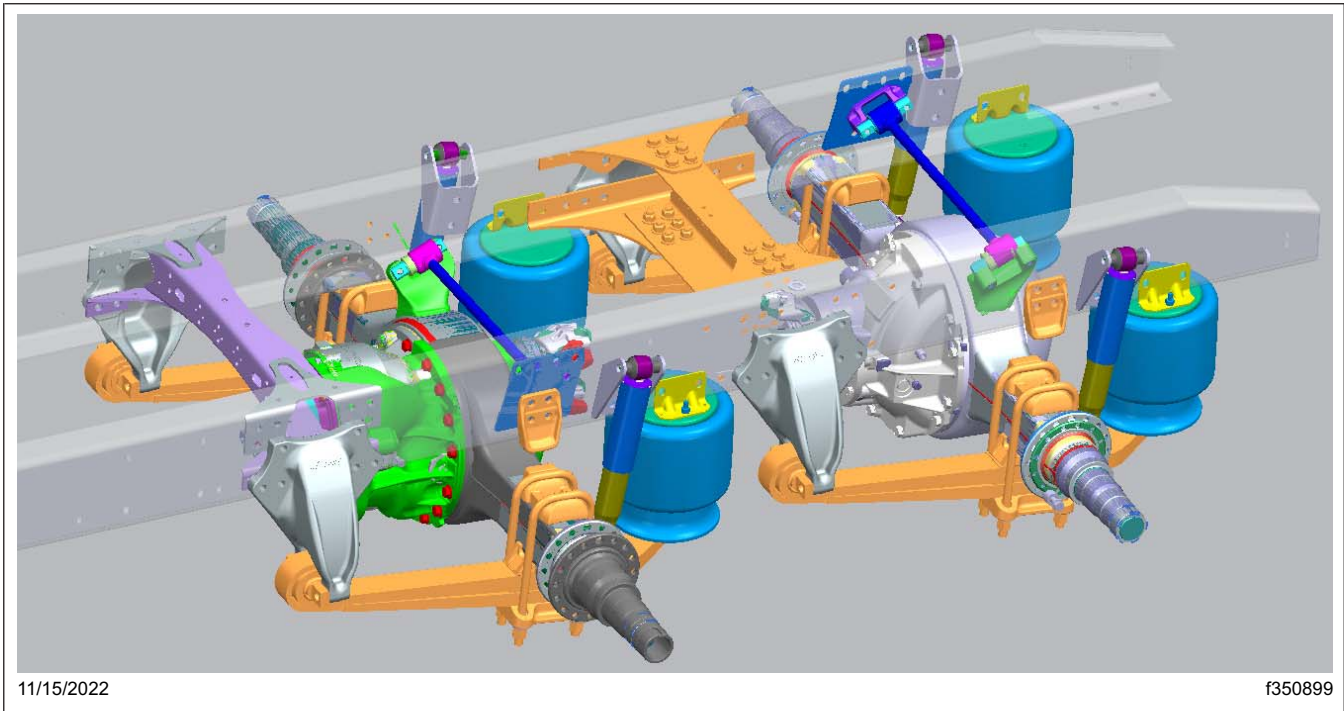

Fig. 2, Full Retrofit Parts of 40K Extra Duty Airliner
6. Remove the crossmember. For instructions, see Section 31.01, Subject 160 of the *47X and 49X Workshop Manual*. See Fig. 2 .